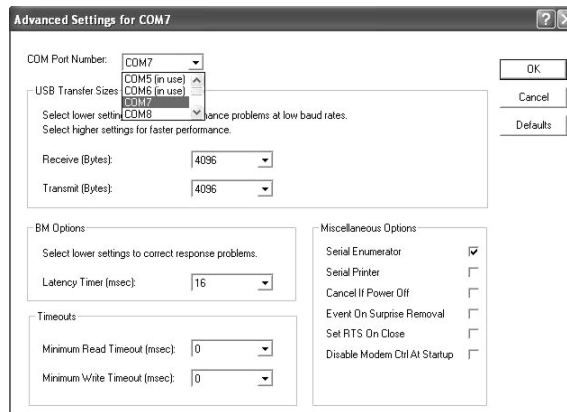

Figure 8: Windows XP COM Port Assignment
7. To check this, you will need to go to My Computer > Manage > Device Manager > Ports (COM & LPT) > USB Serial Port (COM X) > (Right Click) > Properties > Port Settings (tab) > Advanced (button) > COM Port Number > select an available port up to 9. See Figure 8.